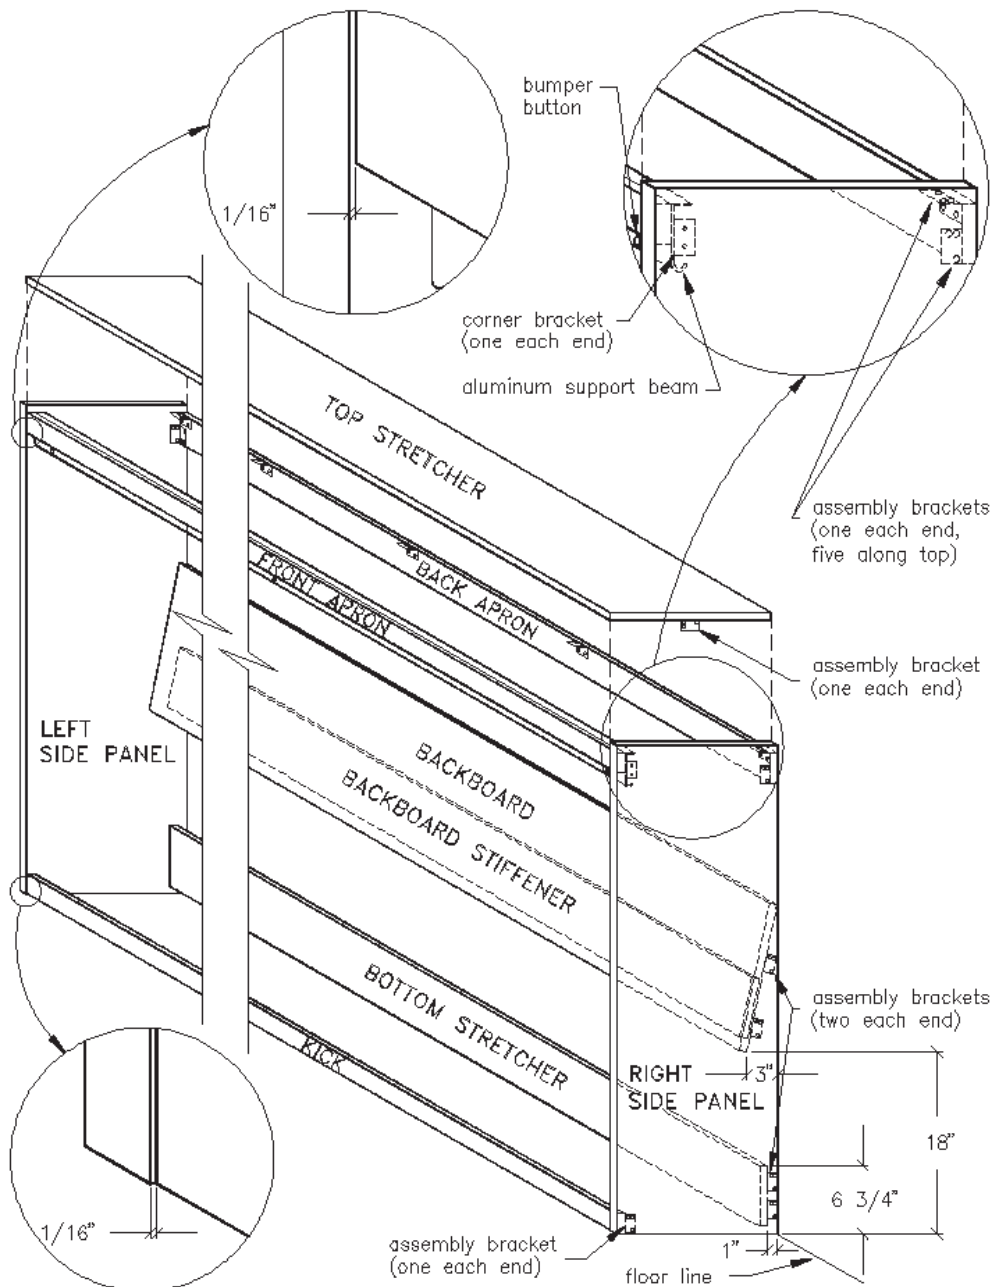

Figure 2. The parts of the Bed Cabinet.
- Cut pieces exactly as specified in the Cut List. As each piece is cut, identify it with a pencil as indicated by the capitalized type in **Figures 2** and **7**. These names will be used throughout the instructions to reference the particular items.
- Layout BACKBOARD line, see **Figure 2**. Make a small mark on the inside of each SIDE PANEL, 3" from the back and 18" from the bottom. From this mark measure up and back 14 7/8" to the back edge of the SIDE PANELS. Make another mark and pencil a line to indicate the back of the BACKBOARD position.
- Attach twenty-eight 1" x 1" x 1 3/4" assembly brackets to the TOP STRETCHER, BACK APRON, FRONT APRON BACKER, BACKBOARD, BOTTOM STRETCHER and KICK as shown in **Figure 2** (use two screws per bracket). Note that the top brackets of the BACKBOARD must be set low enough so as not to protrude beyond the back of the cabinet. If you will be notching out SIDE PANELS to accommodate baseboard, attach BOTTOM STRETCHER brackets to front side.